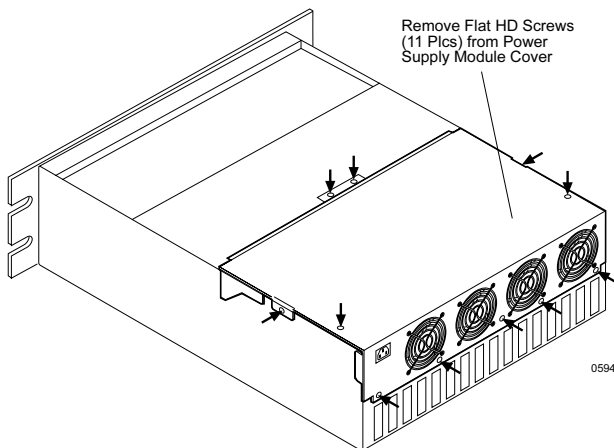

Figure B-9: Power Supply Module Retaining Screws
5. Remove the eleven (11) Flat Hd. screws that secure the power supply module to the chassis (Figure B-9).